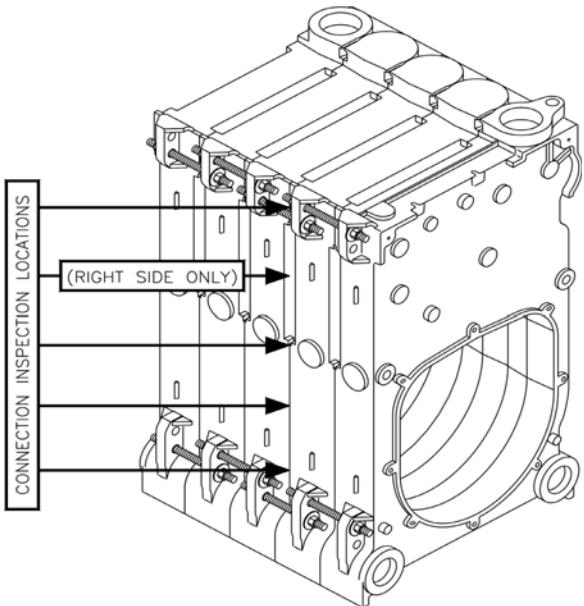

Figure 9: Connection Inspection Locations and Manual Draw-Up Tie Rod Pattern
- l. The large draw-up rod lugs with dual holes are cast in the four (4) corners of each casting. STARTING WITH THE UPPER HOLES, install four (4) 5/8" x 9 3/4" long draw-up rods along with washers and nuts (see Figure 9).
m. DRAW UP SECTION SLOWLY AND EVENLY using an alternating pattern starting with the upper right lug (closest to the 7" port) and proceeding to the lower left , lower right and finishing with upper left lug. When you start, grind surfaces between adjoining sections should be approximately 3/8" apart. Use three (3) or four (4) passes at tightening the four (4) draw-up rods a little at a time so that sections are pulled up evenly. During the last pass, pay close attention to the silastic sealant as it squeezes when the sections come in close contact. The silastic sealant should continue to squeeze out wafer thin until the sections are connected metal to metal. If the silastic has stopped squeezing out from the connection and the sections still do not appear to be drawn metal to metal, use a feeler gauge to measure any gaps at the locations identified in Figure 9. (Unless specified otherwise, gaps should be measured at these locations on both sides of the sections.) A maximum gap of .025" is acceptable. Measure gaps at the outer edge of the connection only, making sure not to puncture the gasket created by the silastic and rope.